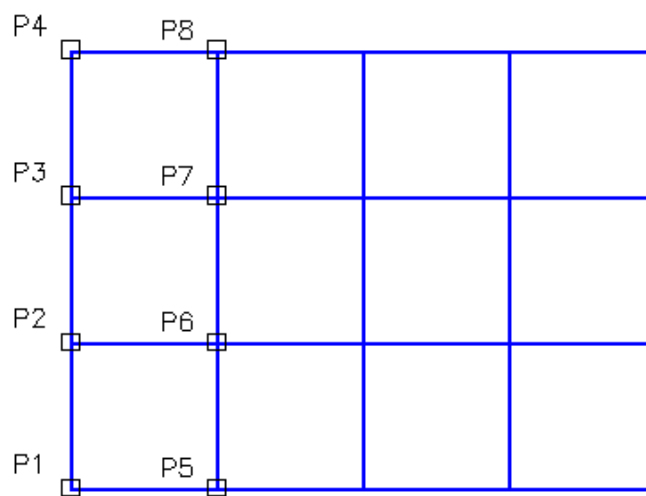

Figure Step 10
Step 10 Set layer: Surface 1 as the current layer. Enter the 3DMESH command, as shown below, to create the mesh. (Figure Step 10)